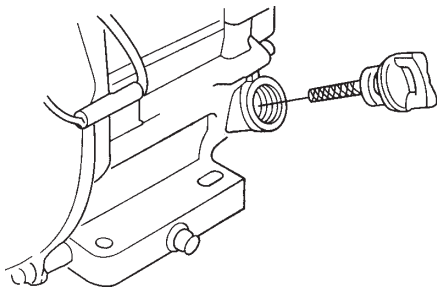

Figure 6. Engine Oil Dipstick Removal
2. Remove the dipstick from the engine oil filler hole (Figure 6) and wipe it clean.